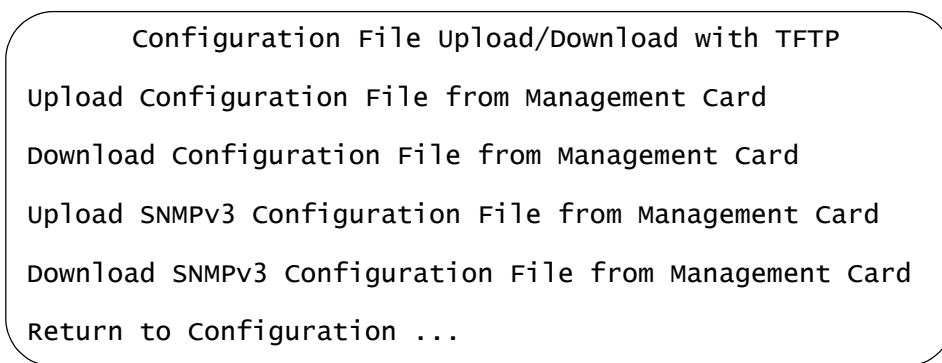

Figure 143. Configuration File Upload/Download with TFTP
2. From the Configuration Menu, select **Configuration File Upload/Download with TFTP** to display the menu in Figure 143.